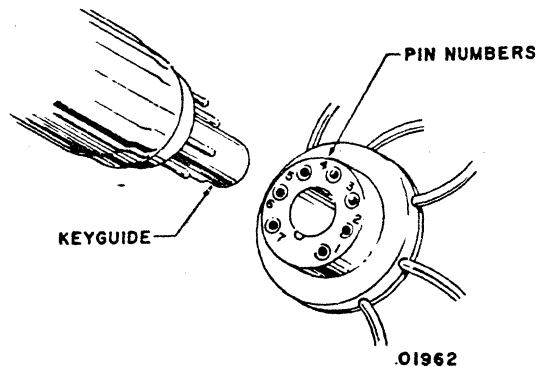

Figure CRT17. CRT Socket Removal
- 4) Pull crt tube socket carefully from end of neck of crt (see figure CRT17). Do not remove vinyl keyguide, which should be in position over end of tube for protection when socket is removed. During installation, keyguide assures that socket is correctly positioned.
- 16) Assure that keyguide is in place over pins on end of crt. Keyguide is illustrated in figures CRT17 and CRT18.